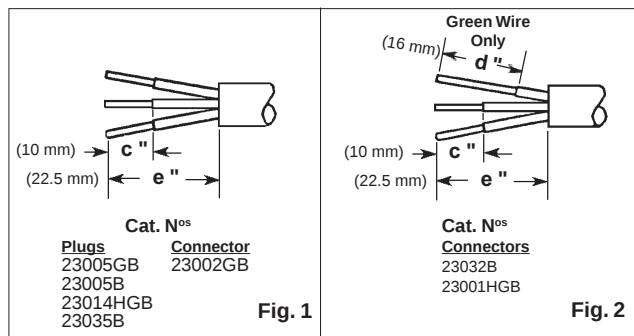

Fig. 1
- Strip cord jacket and conductors as shown in Fig. 1 or Fig. 2. DO NOT TIN CONDUCTORS.